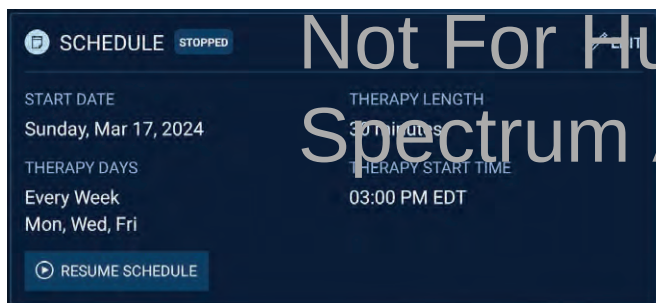

Figure 38. Schedule status when schedule is stopped
3. The dashboard will be updated to indicate that the schedule is stopped (Figure 38).